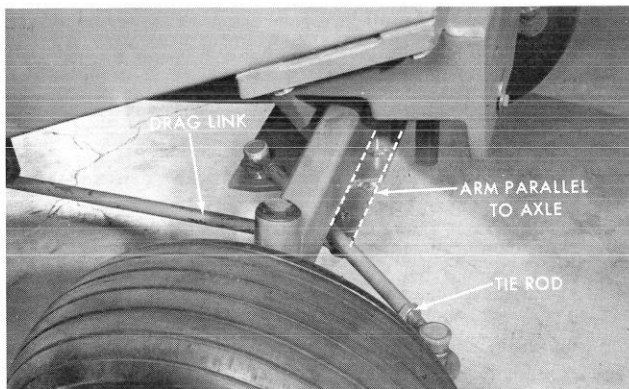

Figure 54
3. Position the rear wheels so the pivot arm is parallel to the rear axle as shown in Figure 54.